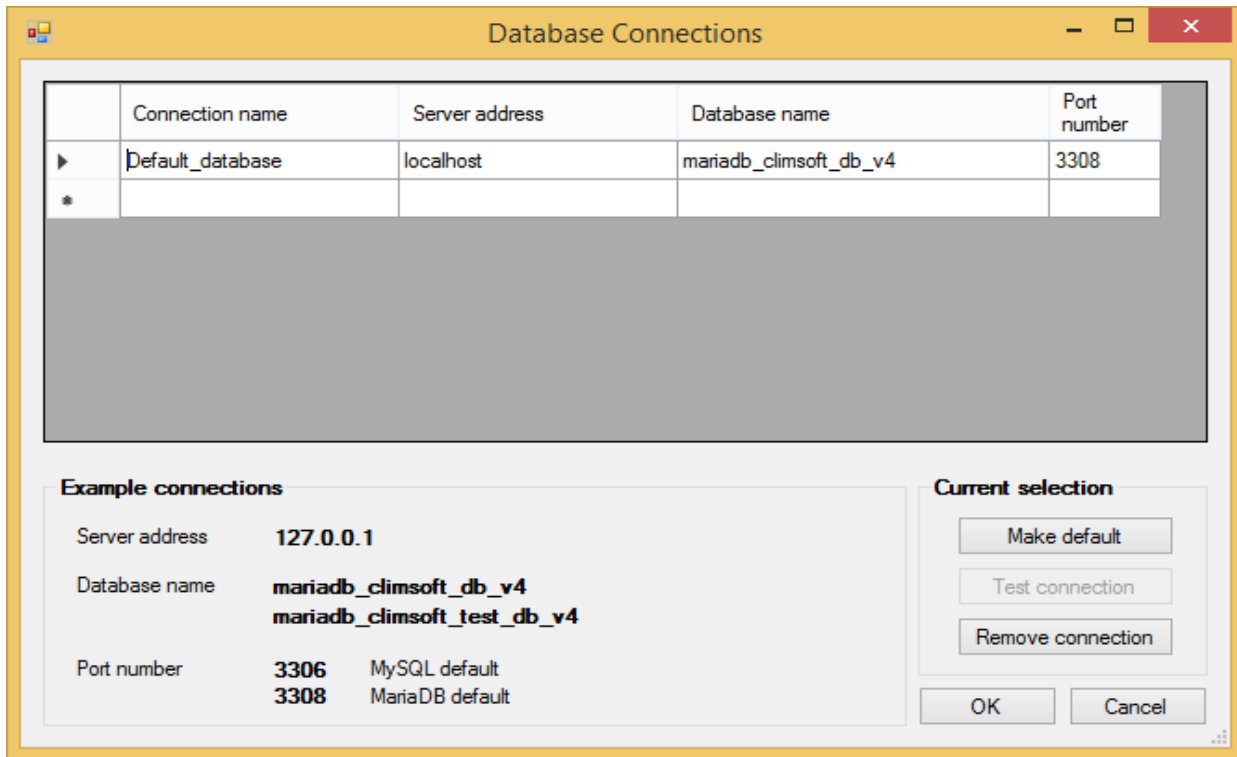

Figure 7: Database connection details
- (iv) If you are sure you have typed the correct password but have been denied access, click on the blue label **“Manage database connections”** on the above dialog to check the database connection details and adjust accordingly. Then a dialog similar to **Figure7** appears.